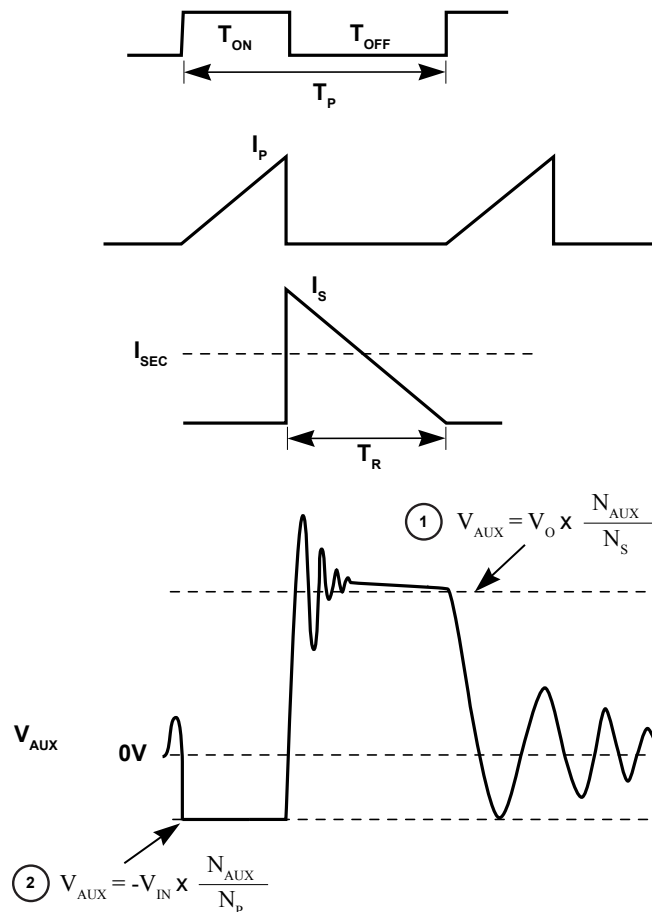

Figure 9.5 : Drive, Primary and Secondary Currents and Auxiliary Voltage Waveforms
and reflects the output voltage as shown in Figure 9.5.
As shown in Figure 9.5, the averaged secondary current of the transformer can be expressed by an equation as shown below.
The iW3636 provides a loosely controlled constant voltage (CV) operation for LED open protection. In this state, the current command is fixed at 0.35V, with the switching period selected between 40 μ s and 40ms. When the knee point of V_{SENSE} (corresponding to the point 1 of V_{AUX} in Figure 9.5) is below the nominal voltage set by $V_{SENSE(NOM)}$, the switching period is set to 40 μ s. If the knee point is higher than or equal to $V_{SENSE(NOM)}$, then the switching period is set to 40ms. Depending on the output capacitor and its preload, the output voltage at no-load condition is regulated with the V_{SENSE} knee voltage around $V_{SENSE(NOM)}$.
Output short fault is detected via V_{SENSE} pin. When the knee point of V_{SENSE} (corresponding to the point 1 of V_{AUX} in Figure 9.5) is below 115mV for several consecutive cycles, the iW3636 shuts down.